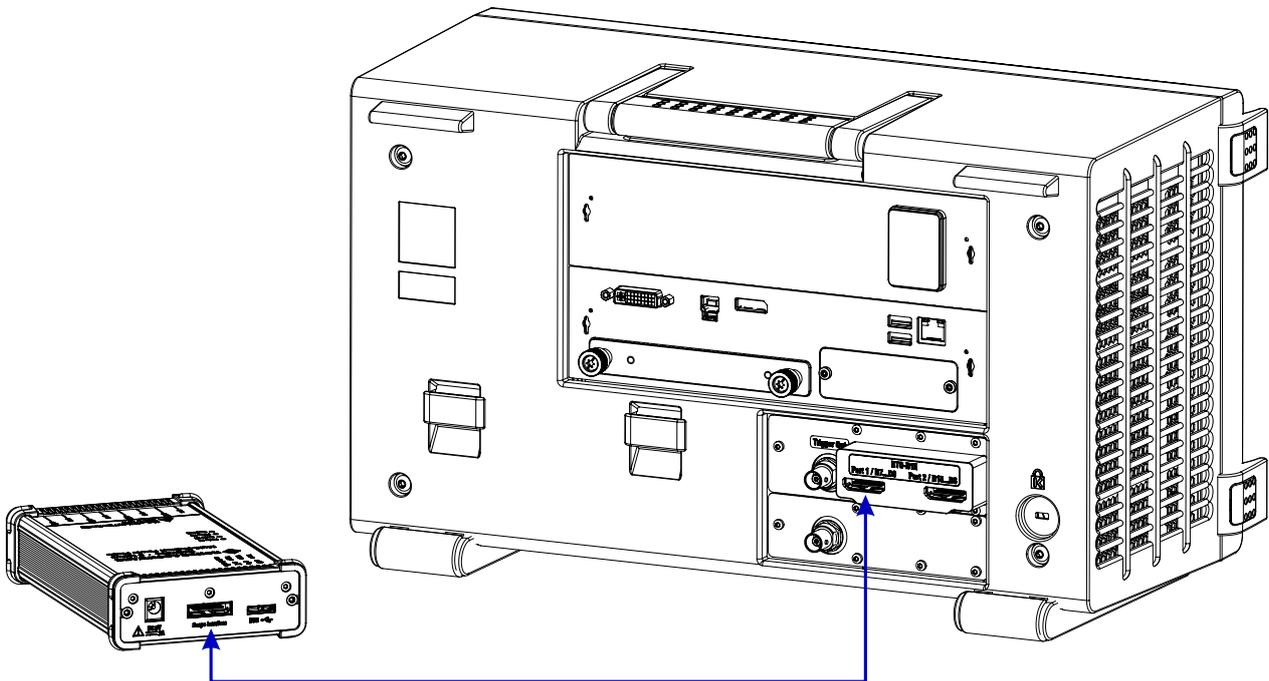

Figure 3-1: Connecting the probe to the oscilloscope
2. Using the oscilloscope interface cable, connect the probe box to the HDMI connector of R&S RTx-B1E module at the rear side of oscilloscope. See Figure 3-1. At R&S RTP oscilloscopes, the connectors are at the front side.